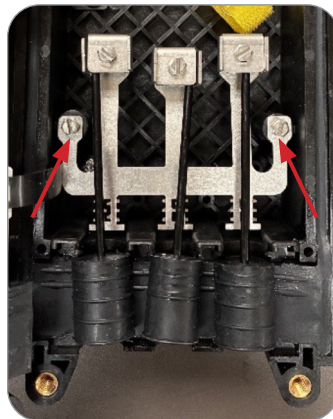

Figure 13
2. Loosen the two (2) captive screws on Cable Bracket from the Box Tray. (Figure 13)